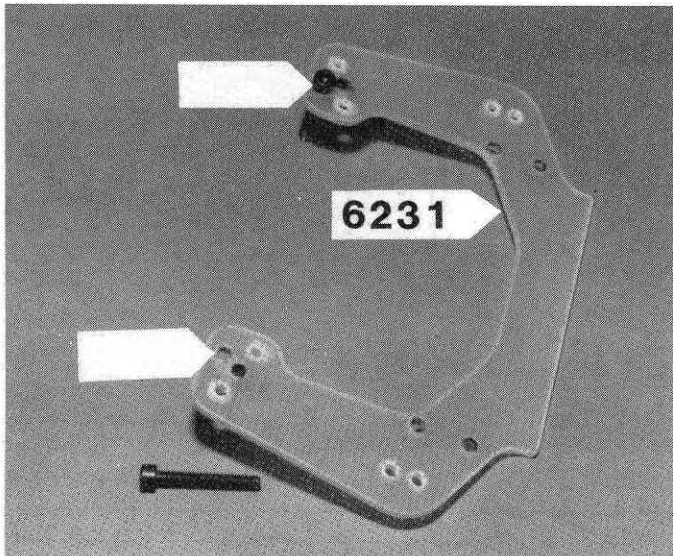

Fig. 14
□ **Fig. 14** Take the #6231 front shock strut out of the same bag. In bag #6-10 take out 2 of the 4/40 screws and install them in the shock strut in the locations shown.